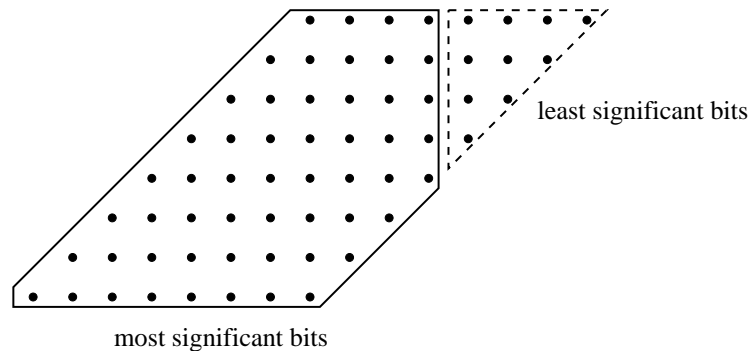

Figure 1
4. Idea: you can do better by reducing the precision. Modify (if needed) your digital filter such that only the most significant part of the multiplication is used (see example in Fig. 1). Then, remove all the adders related to the 5 least significant bits. This solutions will be referred to as *version 2*. Show via simulation the error you obtain on the result.